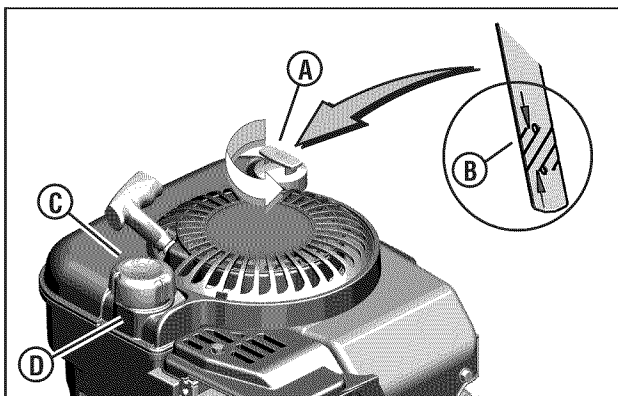

Figure 5: Oil and fuel fill
- Remove the dipstick (**A, Figure 5**) and wipe with a clean cloth.
- Remove the fuel fill cap (**C, Figure 5**).